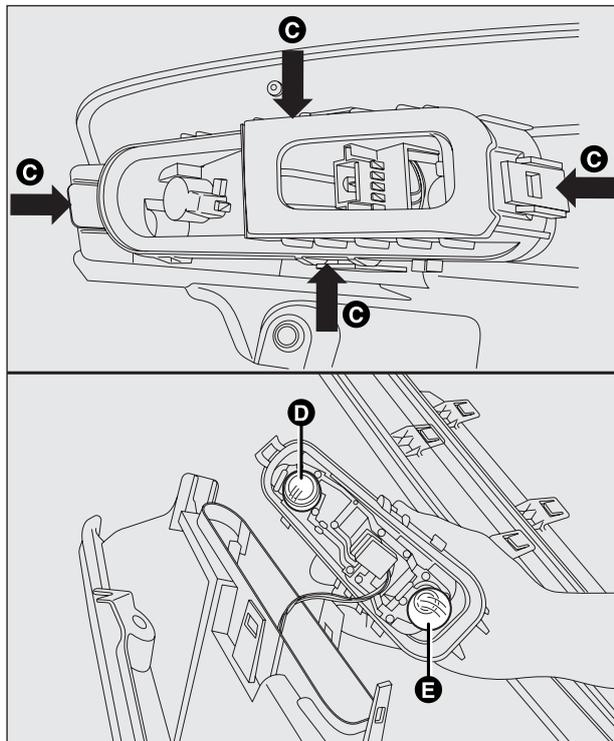

fig. 170
- unhook the bulb holder by unclipping the fasteners C-fig. 170;